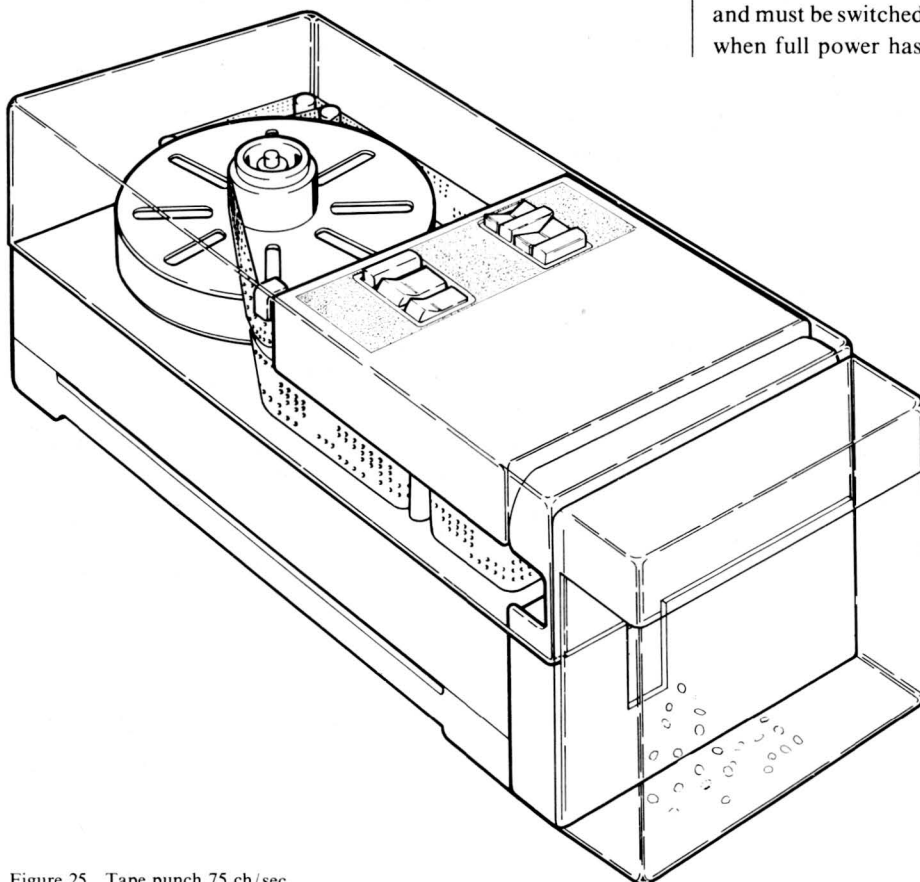

Figure 25 Tape punch 75 ch/sec.
- Step 7 Check that the take-up motor is switched on and the tape direction switch is in the clockwise position. NOTE: If counterclockwise winding is required, it will be necessary to start the tape on the bobbin in the opposite direction to that shown in Figure 25 and the switch must then be in the counterclockwise position.